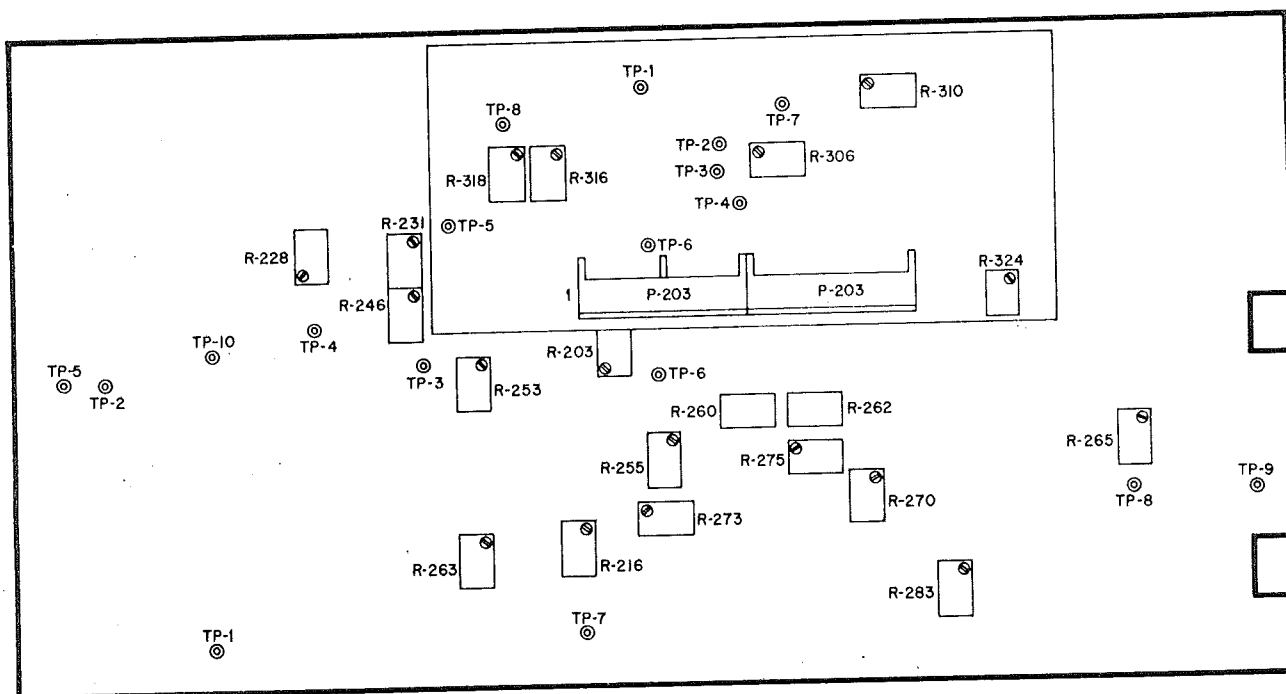

FIGURE 4-3 CALIBRATION CONTROLS
1. Remove right side cover from preamp (Figure 4-3).